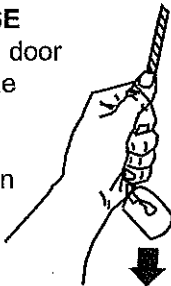

Fig. 24
- ❑ Place a 2X4 inch wooden board on the floor directly in the path of the closing door. See Figure 24.